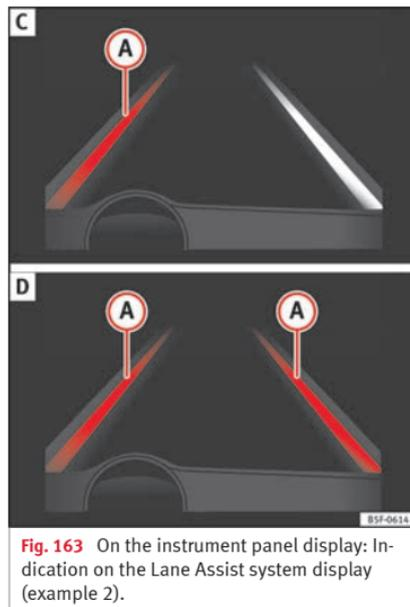

Fig. 163 On the instrument panel display: Indication on the Lane Assist system display (example 2).
- The system is operational, the highlighted line **A** indicates that there was a risk of involuntarily crossing the lane line and that the steering is being adjusted to correct the angle »» **Fig. 163 C**.
- The two lines **A** light up simultaneously when both lane lines are recognised and the Lane Assist function is active »» **Fig. 163 D**.